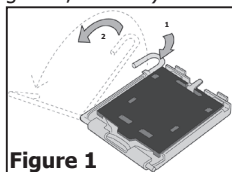

Figure 1
1. Open the socket lever by pushing the lever down and away from the socket (see Figure 1, 1 and 2).